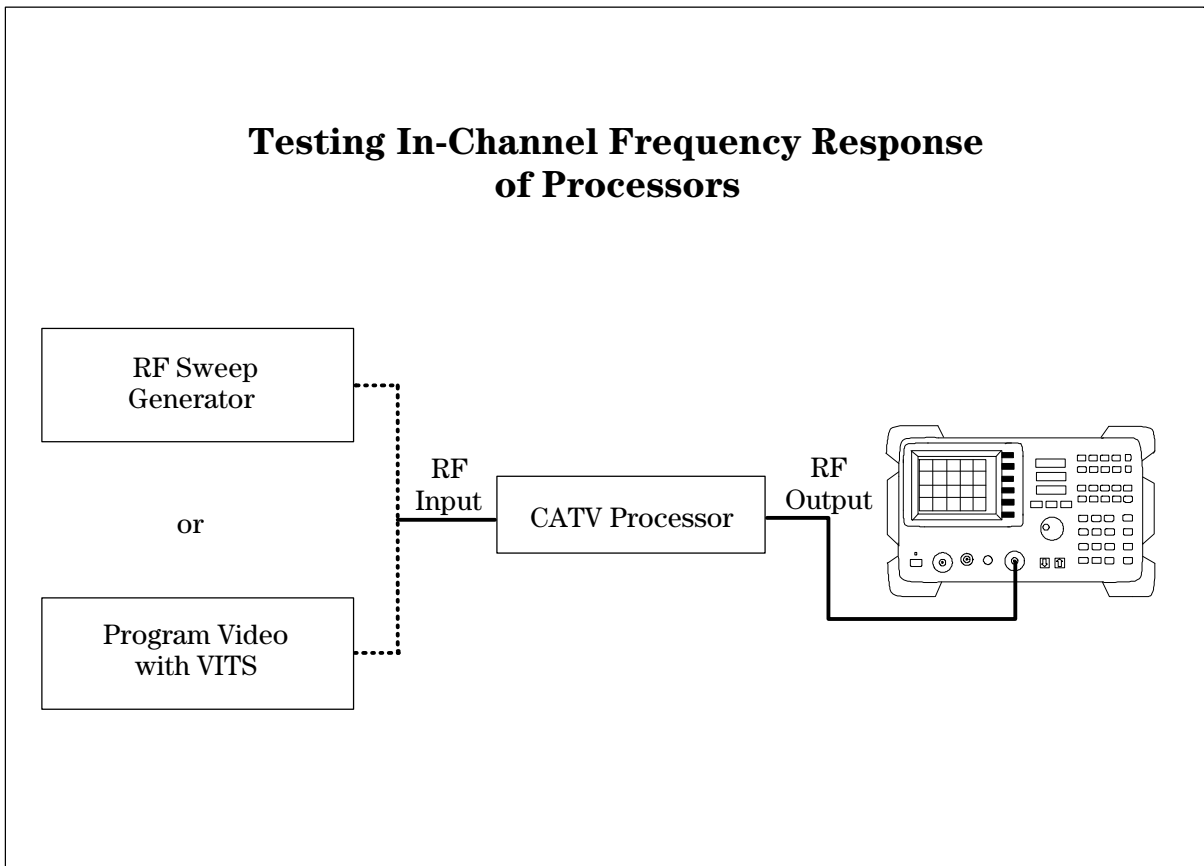

Figure 4.13. Testing in-channel frequency response with direct RF sweep across the channel band or a baseband video signal.
- 1) With the processor disconnected from the cable system, set up as in Figure 4.13. For the RF input, set the sweeper to the level required by the processor. Set the start frequency to 0.5 MHz below the assigned carrier frequency and the stop frequency to 3.75 MHz above the carrier. For channel 4 at 67.26 MHz, start is 54.7 MHz and stop is 59 MHz.
- 1) Use the setup of Figure 4.13. For the easiest to interpret signal response, select sinx/x test signal on the video signal generator.